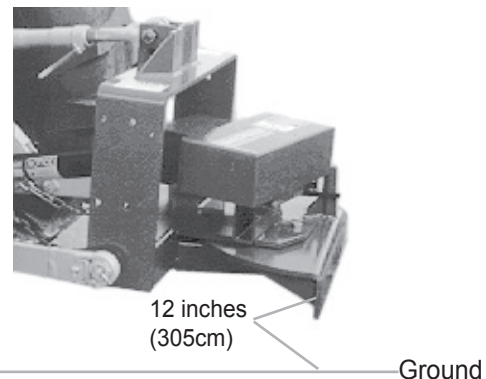

figure 3
- a. Raise hitch arms until the center of the mounting assembly's rear plate is 12 inches (305mm) above the ground (figure 3).